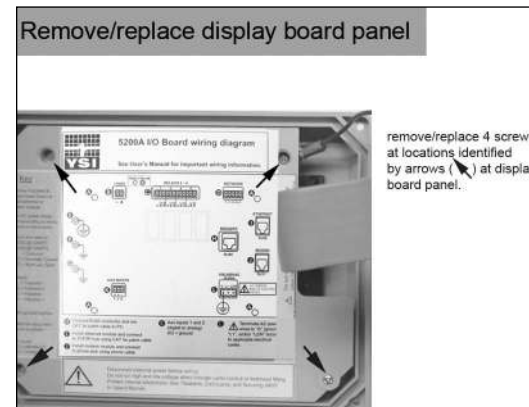

figure 3.6
3. Remove and retain the four screws that secure the display board into front panel enclosure - figure 3.6. (The display board is mounted on panel that is attached to 5200A front panel. The I/O Board wiring diagram is located on the display board panel.)
11. Replace four screws to reattach display board panel to front panel enclosure - figure 3.6.